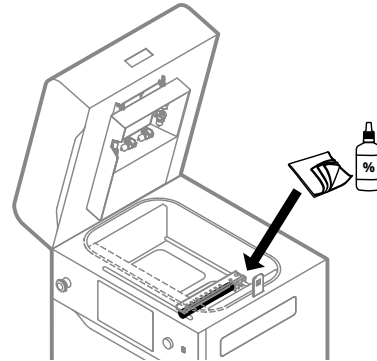

Fig. 12.59 Use cloth and ethyl alcohol to clean the Recoater roller, when it is above the Print Bed.
16. Once again, wipe the Recoater roller with dry cloth to remove the powder (fig. 12.59).
17. Next, wipe the Recoater roller using cloth soaked in ethyl alcohol (fig. 12.59). Press **DONE**.